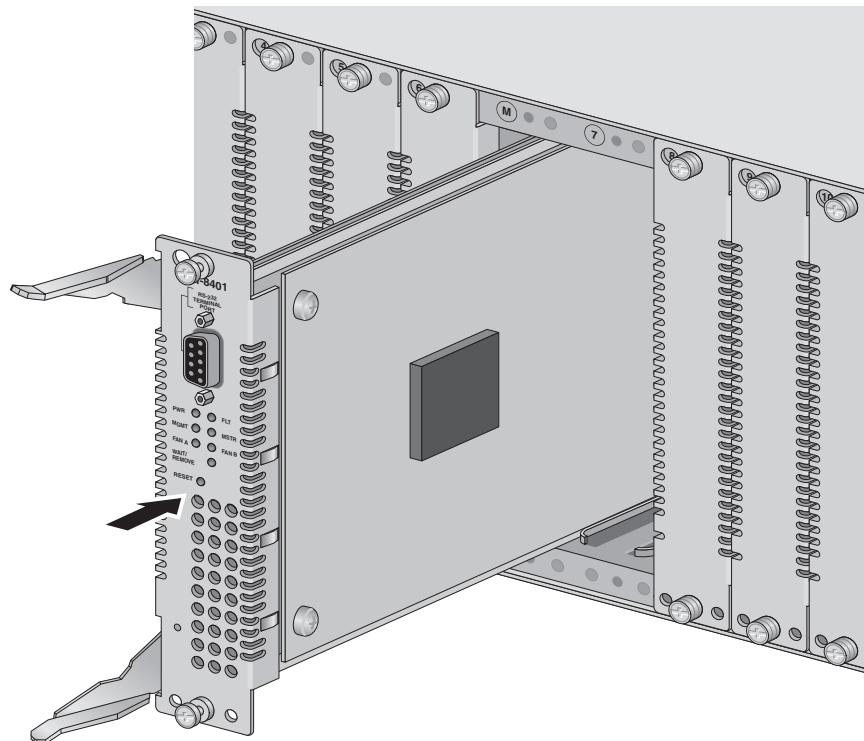

Figure 26 Installing the AT-8401 Management Card into slot M
5. Carefully slide the management card into slot M, keeping the locking levers in the released position as shown in Figure 26.